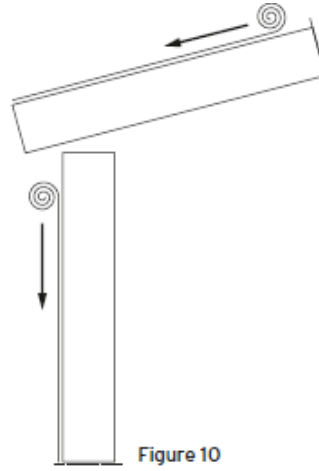

Figure 10
- Protective foil shall remain on the panel surface for seven days at the most during the installation, and shall be completely removed after the installation. Otherwise, the foil may stick to the metal because of the sun and may not be removed, or may cause stains on the metal surface as a result of water penetration. (Figure 10)